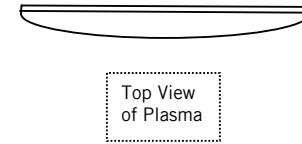
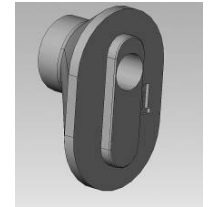

Fig. 4
Fig. 5
Some Plasma displays have curved backs with recessed mounting lands (Fig. 4), which will require the use of a spacer (Fig. 5). For these displays, install the 5/8" (1) spacer between the display and the rail.